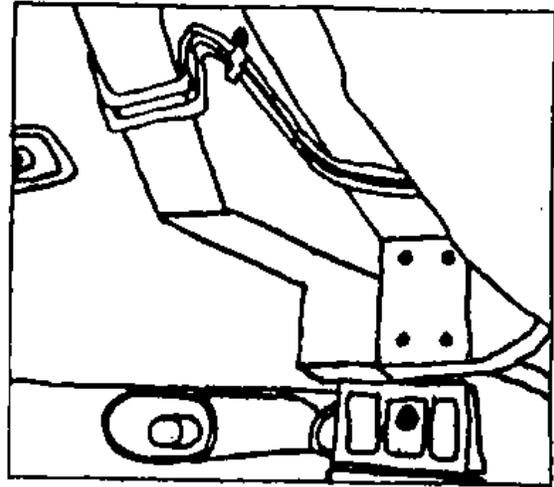

Figure 2
5. Cut the outlined area of longitudinals out with either torch, air chisel or saw. See Fig. 2.